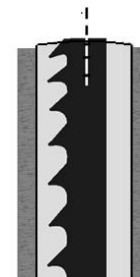

Fig 15
- When blade is tracking properly (Fig 15), secure position by tightening nut.